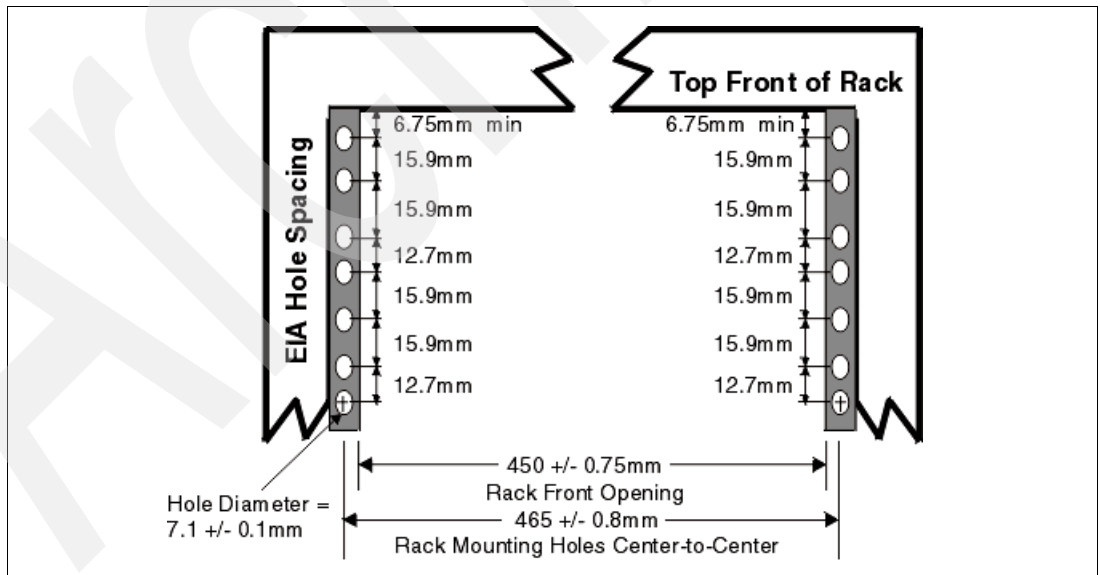
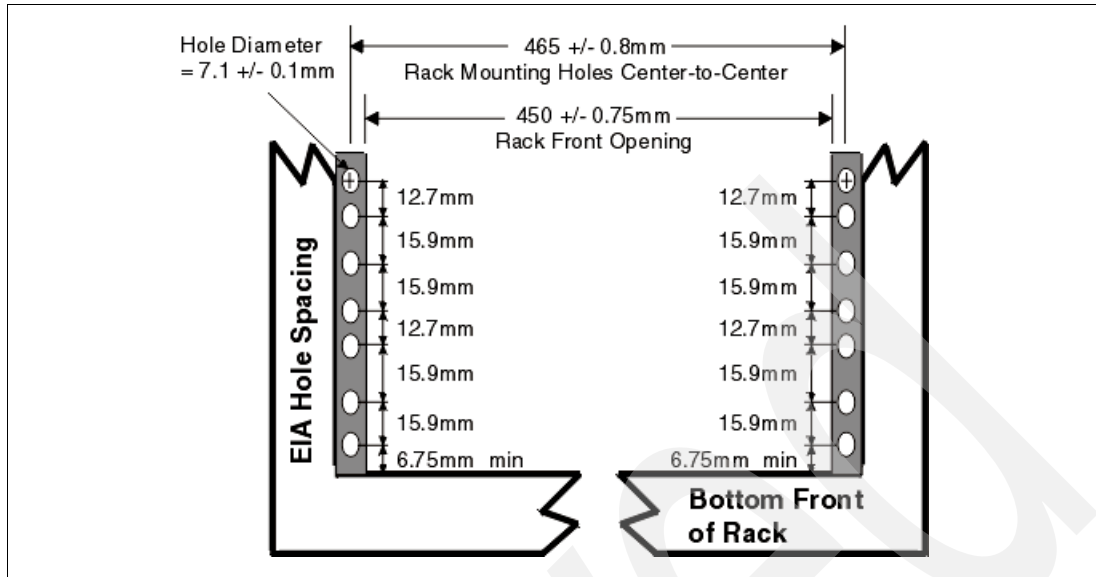

Figure 1-10 Rack specification dimensions, top front view
Figure 1-11 Rack specification dimensions, bottom front view
- The vertical distance between the mounting holes must consist of sets of three holes spaced (from bottom to top) 15.9 mm (0.625 in.), 15.9 mm (0.625 in.), and 12.67 mm (0.5 in.) on center, making each three-hole set of vertical hole spacing 44.45 mm (1.75 in.) apart on center. Rail-mounting holes must be 7.1 mm + 0.1 mm (0.28 in. + 0.004 in.) in diameter. See Figure 1-10 and Figure 1-11 for the top and bottom front specification dimensions.